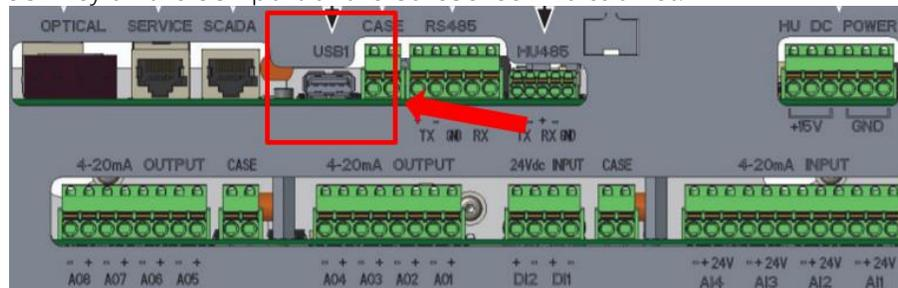

Figure 5. Instrument USB port.
3. Insert the second USB key on the USB port of the CoreSense M10 cabinet (see Figure 5).